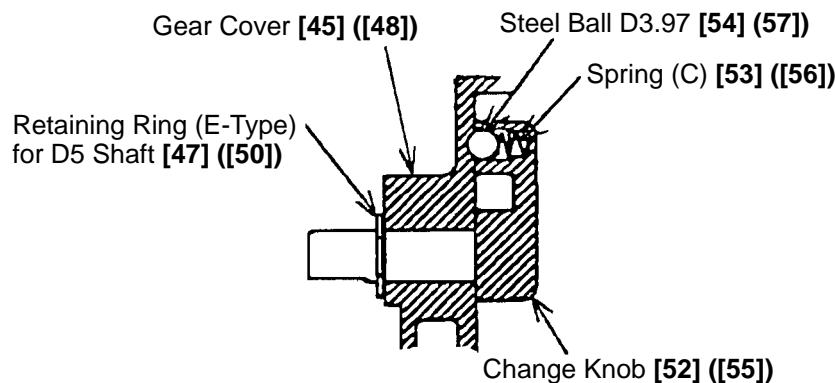

Fig. 13
(1) Assemble Spring (C) [53] ([56]) and the Steel Ball [54] ([57]) in the Change Knob [52] ([55]) as shown in Fig. 13.